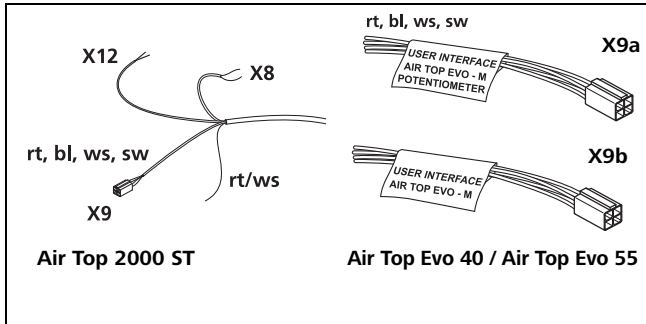
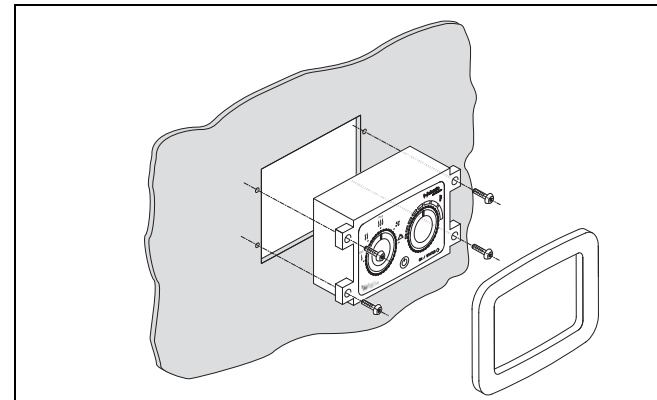

Fig. 41 Control element wiring
Fig. 46 Installing MC04 control element
See Fig. 41
- See Fig. 41 (connector X9a and X9b), as well as Fig. 46.